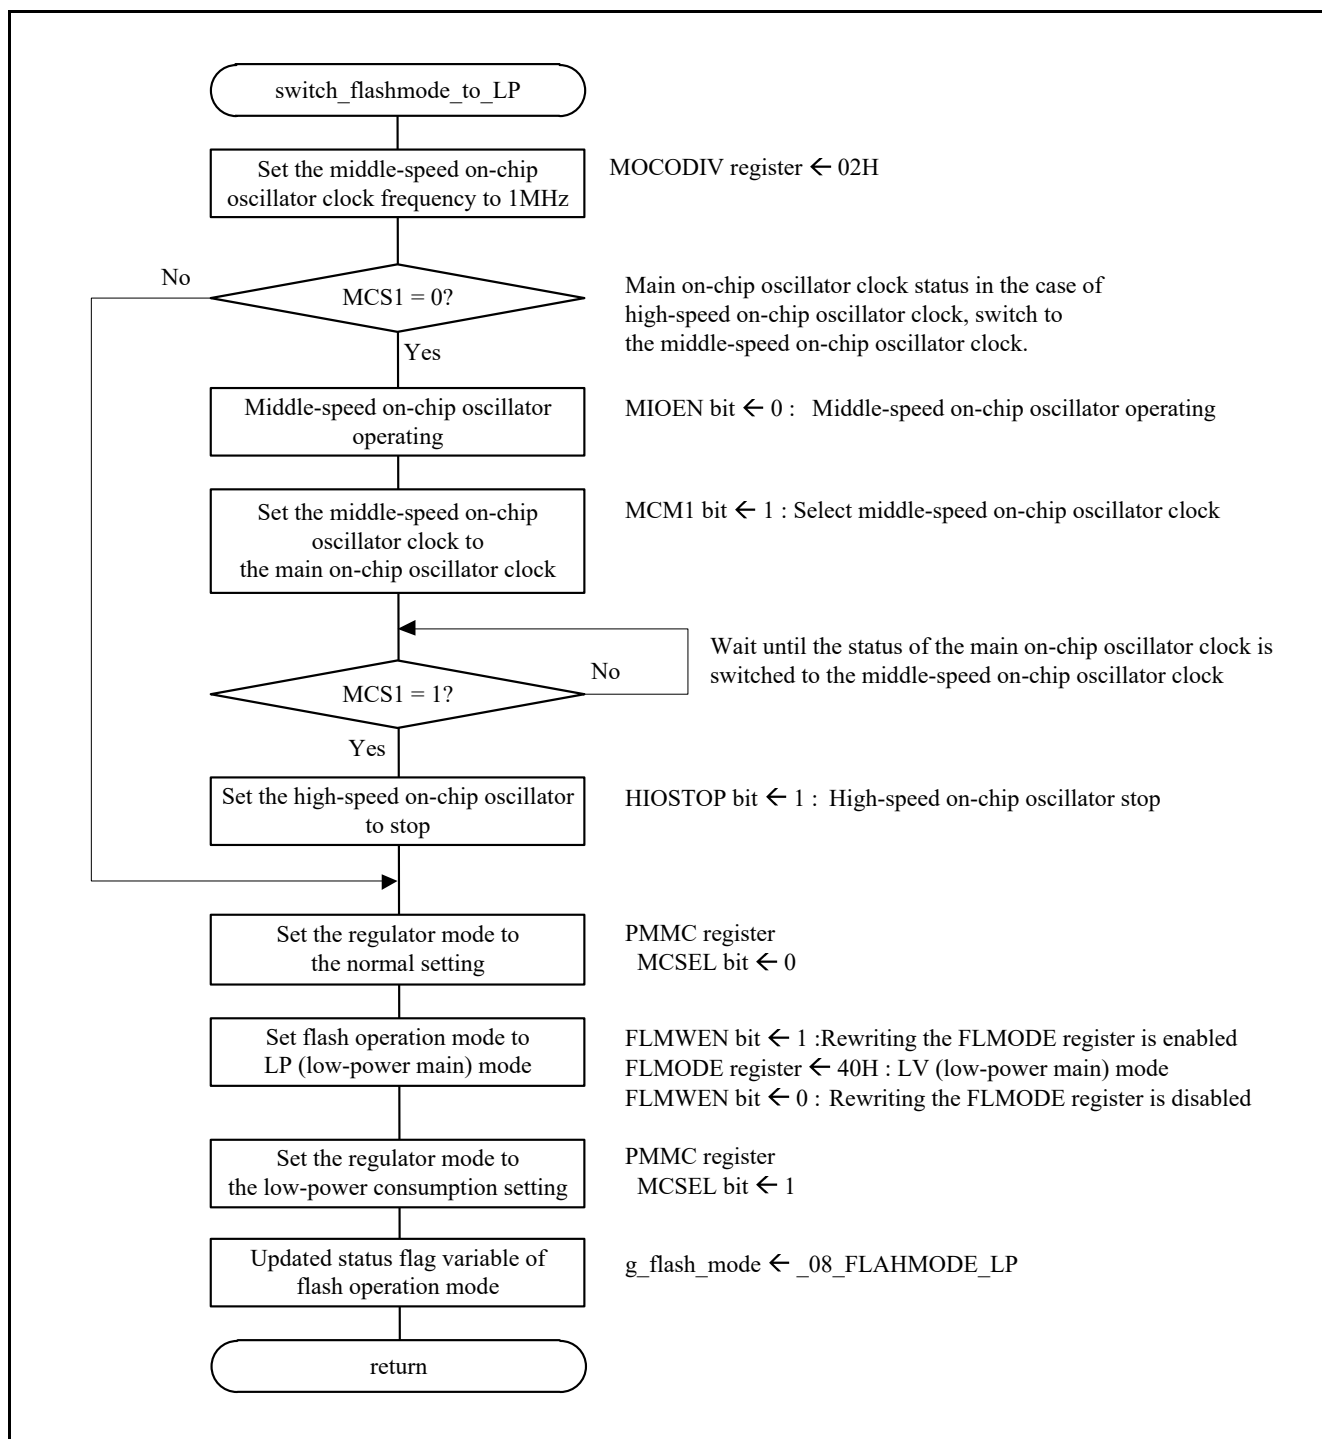

Figure 4.23 Flash operation mode switching (LP normal) processing
Figure 4.23 shows the flowchart of the flash operation mode switching (LP) processing.